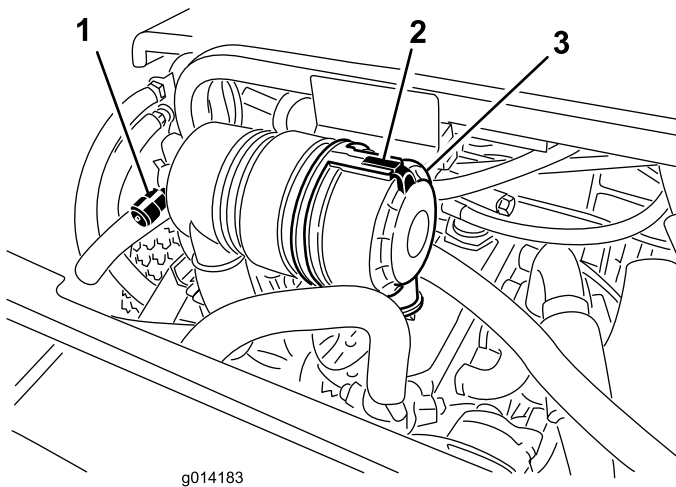

Figure 35
Service the air cleaner filter only when the service indicator (Figure 35) requires it. Changing the air filter before it is necessary only increases the chance of dirt entering the engine when the filter is removed.
1. Release the latch securing the air cleaner cover to the air cleaner body (Figure 35).